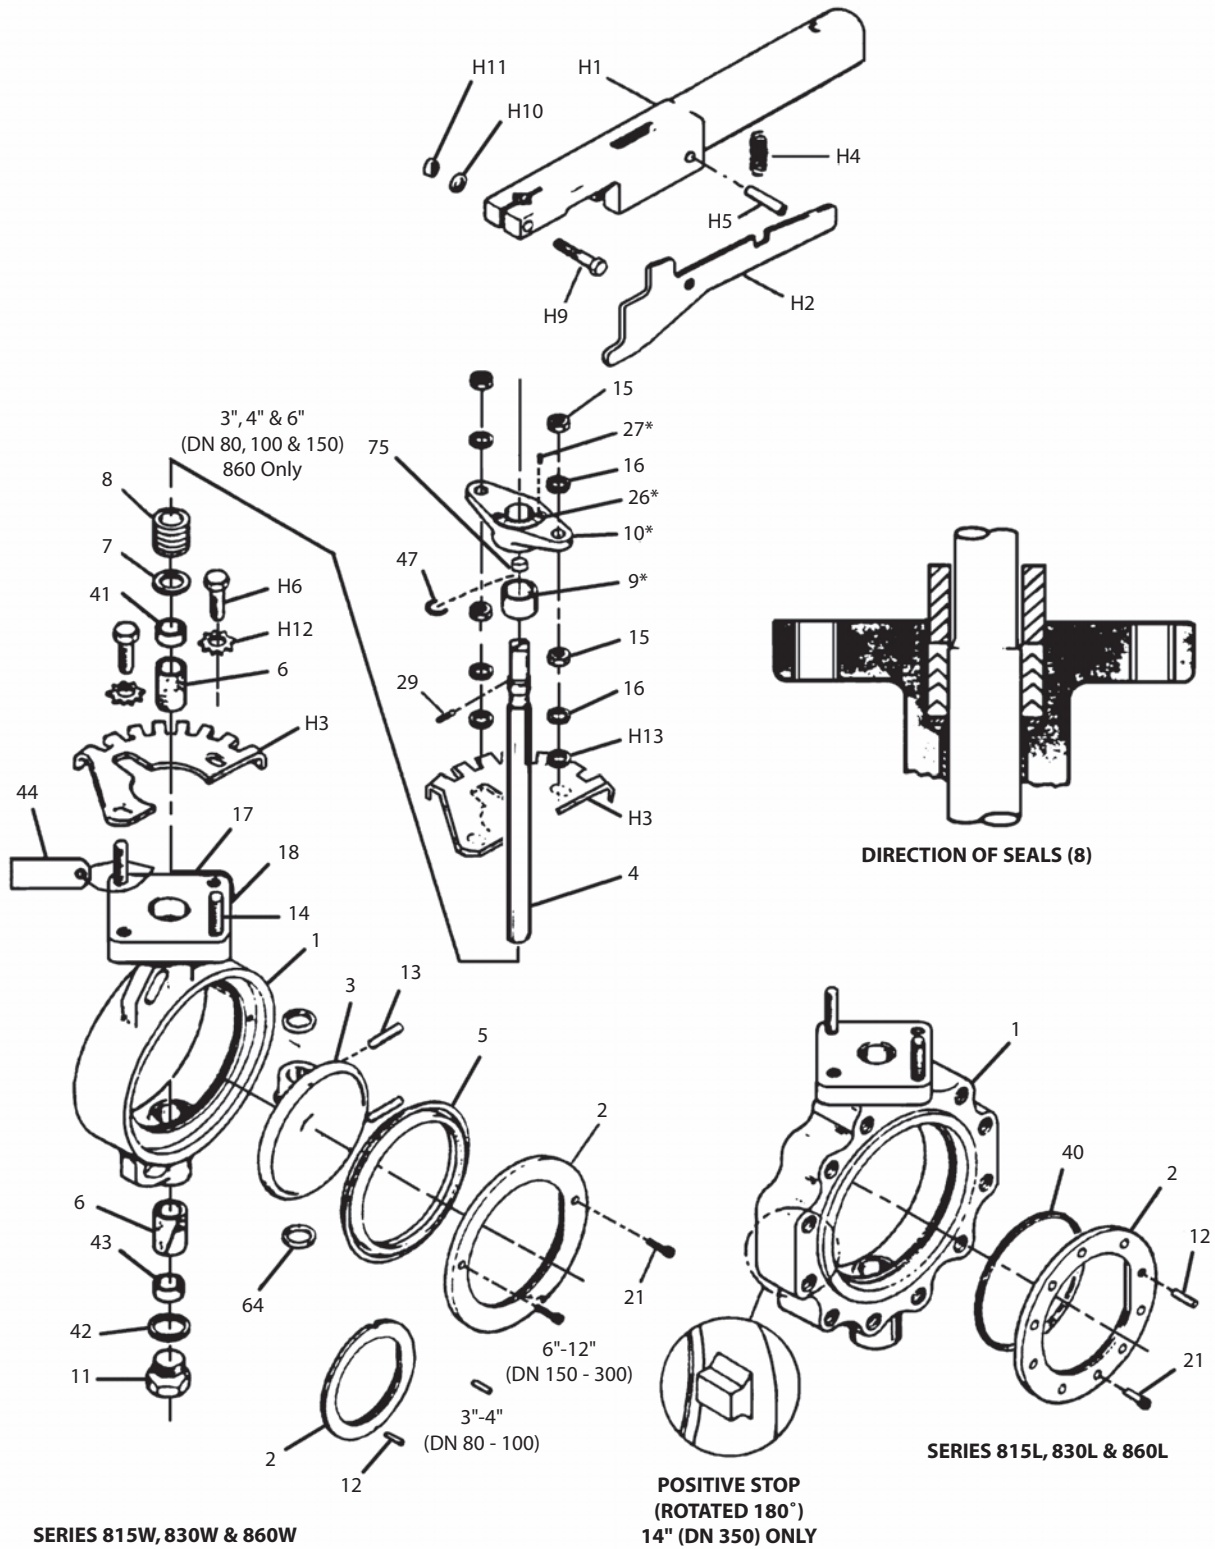

Figure 17
3. If the handle (H1 in Figure 17) has been removed from the valve, reinstall it on the shaft drive square and tighten the nut (H11). The handle should be installed so that it is parallel with the disc (3) in order to provide visual indication of disc position when viewed from a distance. With the handle locking tab in the last (closed) notch of the ratchet plate, rotate the ratchet plate clockwise (when viewed from above the handle) until it is stopped by the locking tab. The disc/handle assembly is now lightly trapped between the insert and the ratchet plate.
4. Tighten the two nuts (15) and two screws (H6) holding the ratchet plate.
- c. From **Figure 17**, the ballooned part number, part name and quantity required.